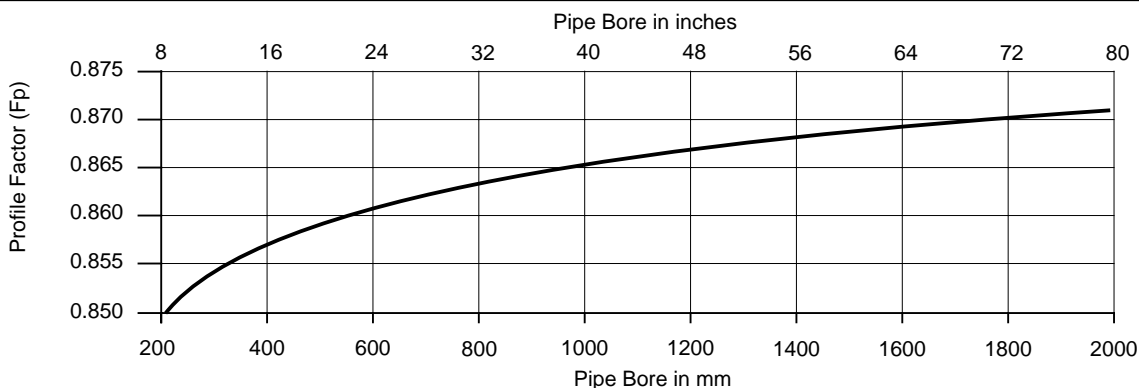

Fig. 5.1 Profile Factor vs Velocity for Pipe Sizes 200 to 2000mm (8 to 80in)
- b) Determine the profile factor F_p from Fig. 5.1.
$$F_p = 0.861 \text{ (derived from Fig. 5.1)}$$